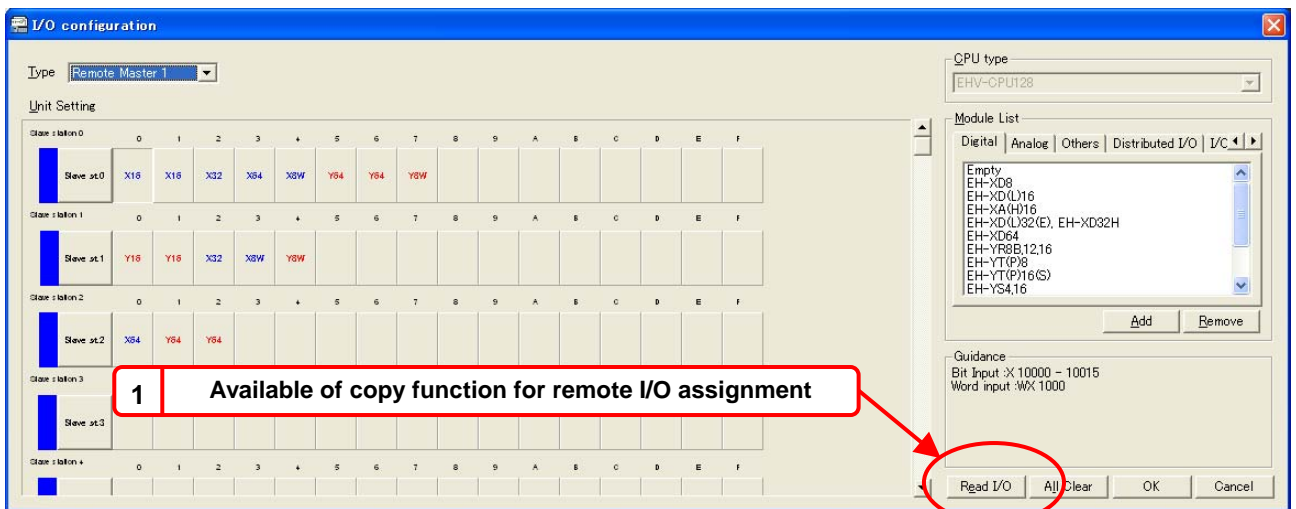

Figure 4.3.3 I/O assignment example of remote slave (REMOTE (RMM))
- 1) Master module (EH-TRME2) has remote I/O area of 128 channels (00 to 7F). Each channel is assigned from slot 0 to A in turn on remote slave bases according to remote I/O assignment as Figure 4.3.3.
- 2) Each channel consists from input area of 16 bits and output area of 16 bits. In the case of I/O assignment "REMOTE (RMM)" of master, either input area or output area in one channel is used by I/O assignment on remote slave bases as Figure 4.3.3.
- 11) Set I/O assignment by "Read I/O" as shown in Figure 4.3.3. Compact remote2 support copy function of I/O assignment for mounted modules in normal mode.